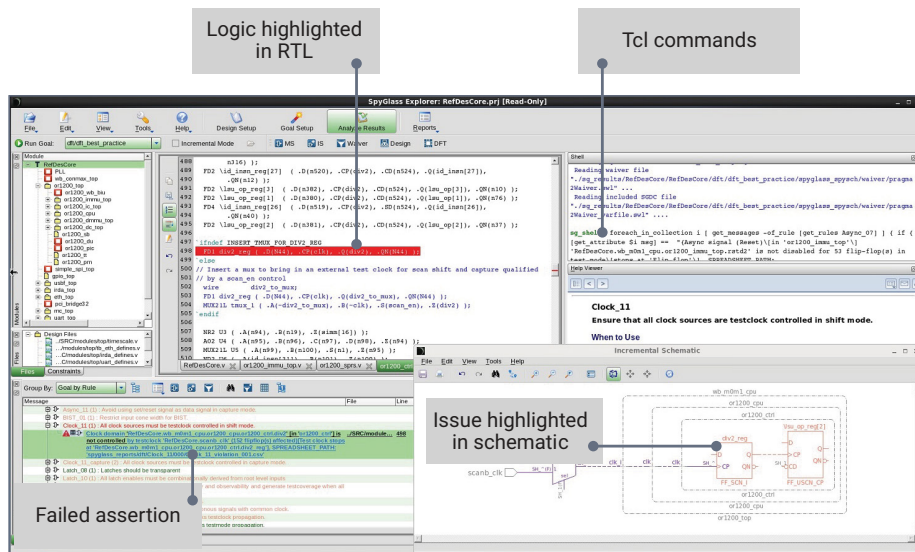

Figure 2: Integrated debug environment enables cross-probing among views to easily diagnose testability issues
**Checking for Test Robustness.** Testability profiling assesses test robustness – the susceptibility of test patterns to electrical glitches – and identifies RTL constructs that limit maximum stuck-at and transition fault coverage. Rule violations always reference the RTL so that designers know exactly where to make changes. To easily diagnose testability issues in the RTL, SpyGlass DFT ADV provides an intuitive, integrated debug environment that enables cross-probing among views (Figure 2).